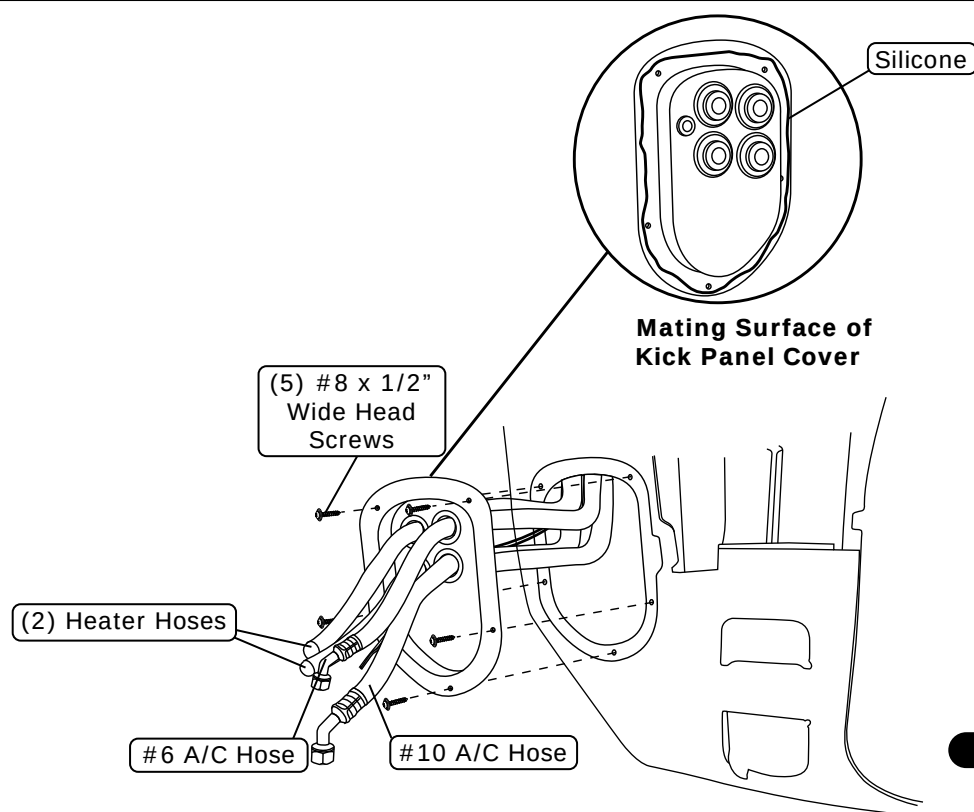

Figure 1
5. Apply a 1/4" bead of silicone around the mating surface of the kick panel cover (See Figure 1, below).
6. Secure the kick panel cover using (5) #8 x 1/2" wide head screws. **NOTE: Let the silicone cure, then remove the (5) #8 x 1/2" wide head screws.**